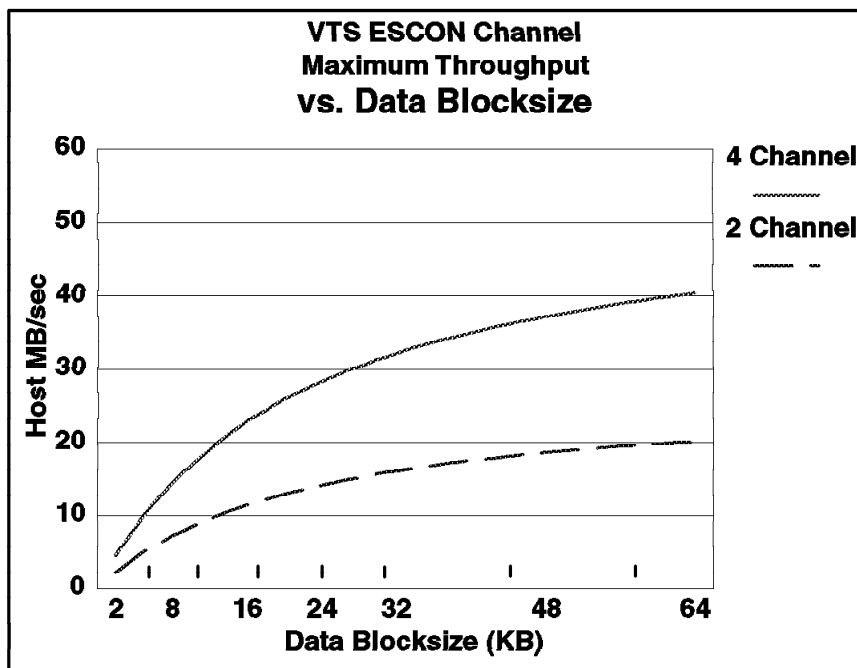
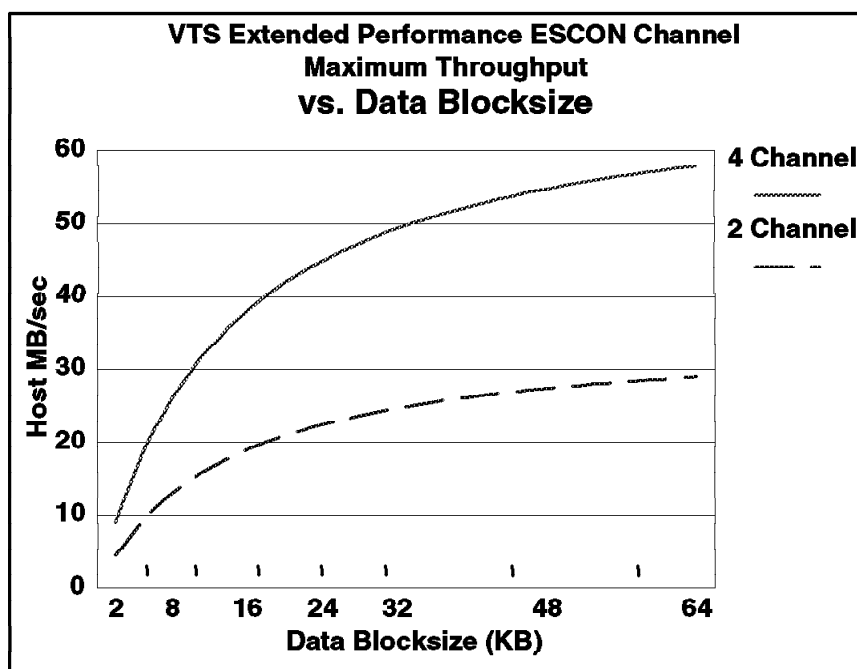

Figure 80. VTS ESCON Channel Throughput
Figure 81. VTS Extended Performance ESCON Channel Throughput
The following graphs were constructed by using data from laboratory measurements for the three environments discussed above. Figure 80 on page 218 and Figure 81 on page 218 show the maximum throughput in host
Mbytes/second for various data block sizes and ESCON channel configurations. Figure 80 on page 218 applies to VTS's without Extended Performance ESCON Channel Adapters (FC 3412).
Figure 81 applies only to VTS with FC 3412.
- a. Determine whether you should use Figure 80 on page 218 or Figure 81 on page 218 based on the type of channel adapters on your VTS.
From Figure 80 on page 218, the maximum throughput value is approximately 15 Mbytes/second.
From Figure 80 on page 218, the maximum throughput value is approximately 49 Mbytes/second.